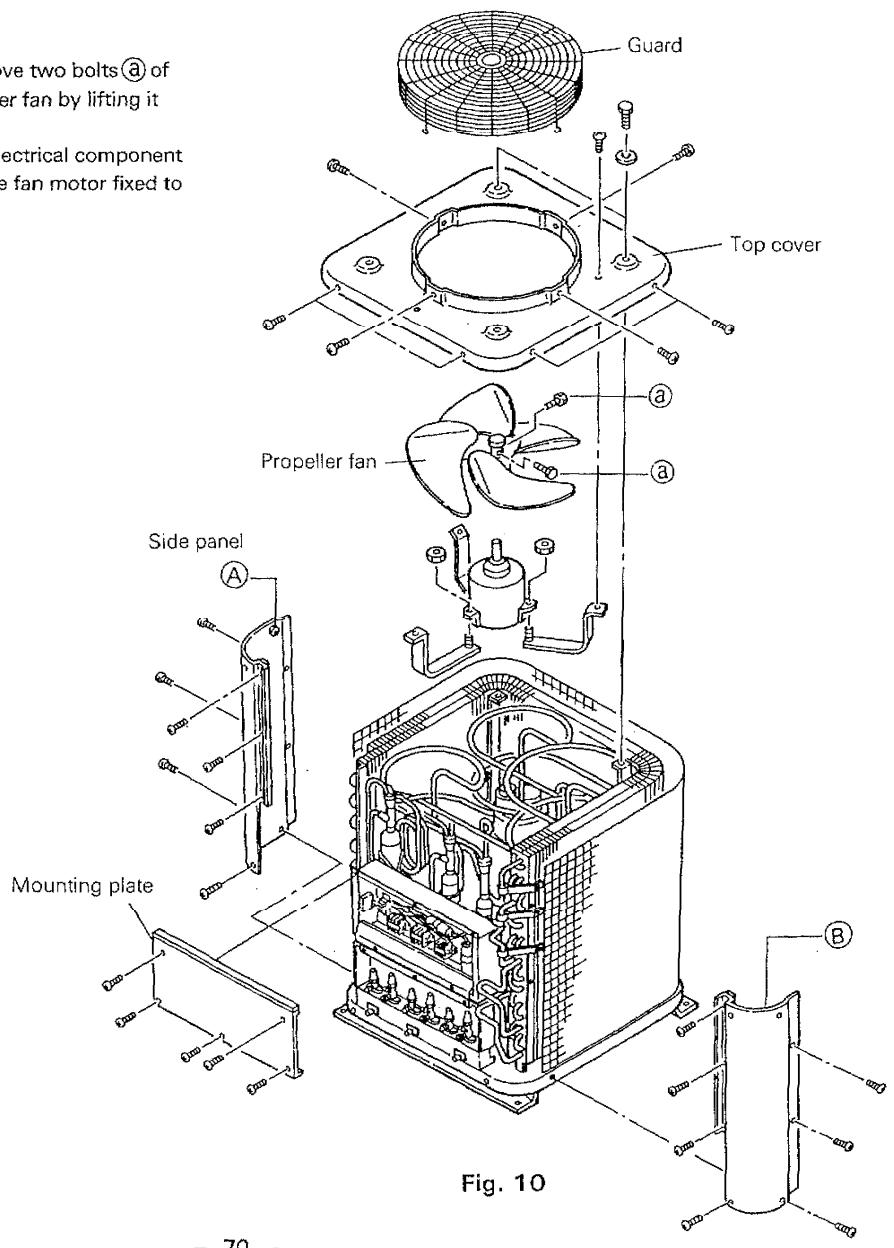

Fig. 10
- 2) Remove the fan motor wire from the electrical component box, and remove the top cover with the fan motor fixed to the top cover. Fig. 10.
- 1) Remove the side panel Ⓐ, Ⓑ and mounting plate. Fig. 10.